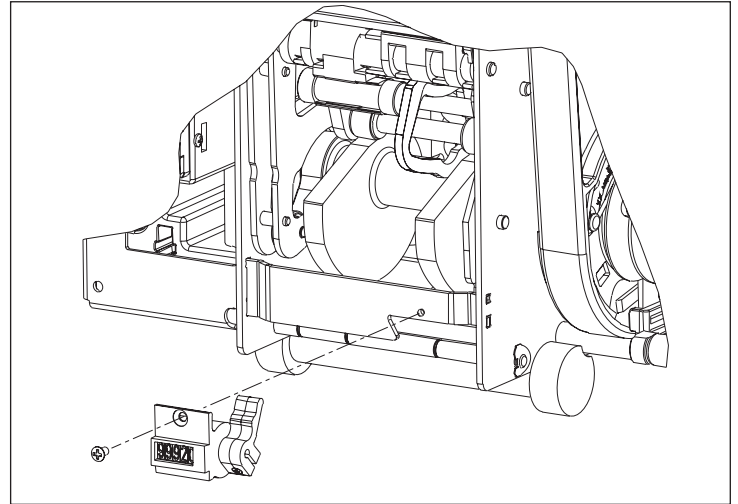

Figure 7. Step 4
Step 3: Loosen the counter mounting screw by one turn. Refer to **Figure 7**.